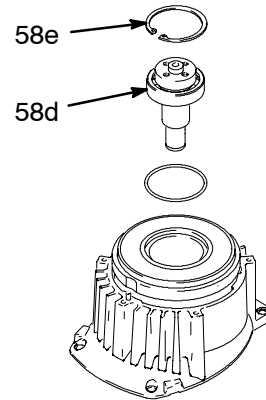

Fig. 12
5. Remove four screws (95) and lockwashers (43). Install two screws in threaded holes (E) in rotor. Alternately tighten screws until rotor comes off.
6. Fig. 12. Remove retaining ring (58e).
4. Install armature (89) on engine drive shaft.
5. Install four screws (2) and lockwashers (43) with torque of 125 in-lb.
6. Fig. 12. Tap pinion shaft (58d) in with plastic mallet.